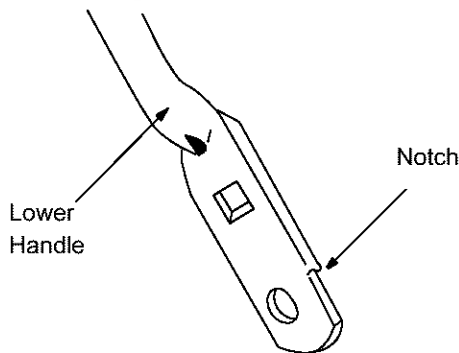

Figure 16
- Turn the lower handle around so the notch on the bottom of the lower handle is facing forward as shown in Figure 16. Reassemble, placing the bottom holes in the handle over the weld pins in the handle mounting bracket.